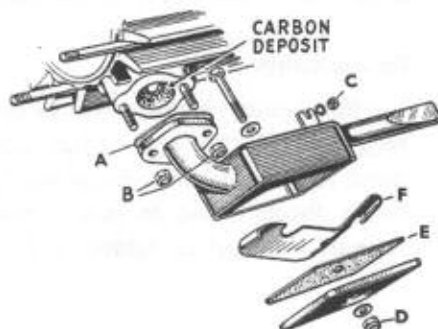

Fig. W5. View into port with pipe off and silencer dismantled
To dismantle, slacken the crankcase nut (C. Fig. W5) retaining the slotted silencer clip and remove the two self-locking stud nuts (B) which retain the exhaust port flange. The complete silencer can then be withdrawn downwards from the engine unit, taking care that the jointing washer (A) is not damaged. Removal of the self-locking nut (D) enables the bottom of the silencer together with its sealing washer (E) to be removed, thus exposing the silencer baffle (F) which can be pulled free from the silencer body.